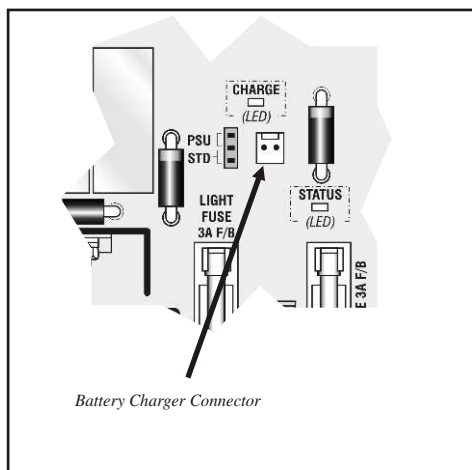

Figure 23 CP75 Controller Battery Charger Connector
2. Check that the battery charger is plugged into the controller board as shown in Fig. 23